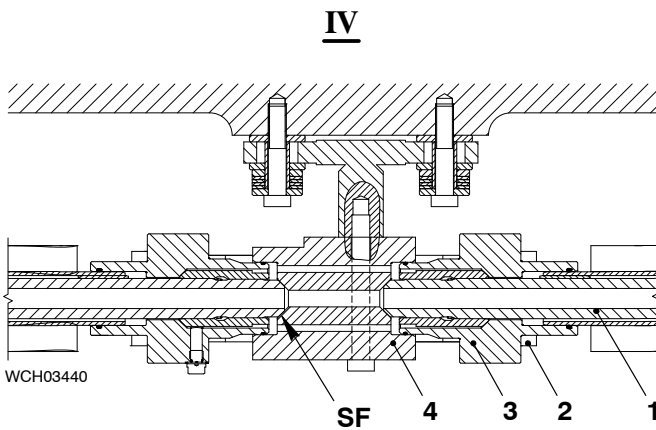

Fig. 8
- 10) Remove the four screws (2, Fig 8) from the flange (3).
- 11) Carefully move the flange (3) away from the intermediate piece (4).